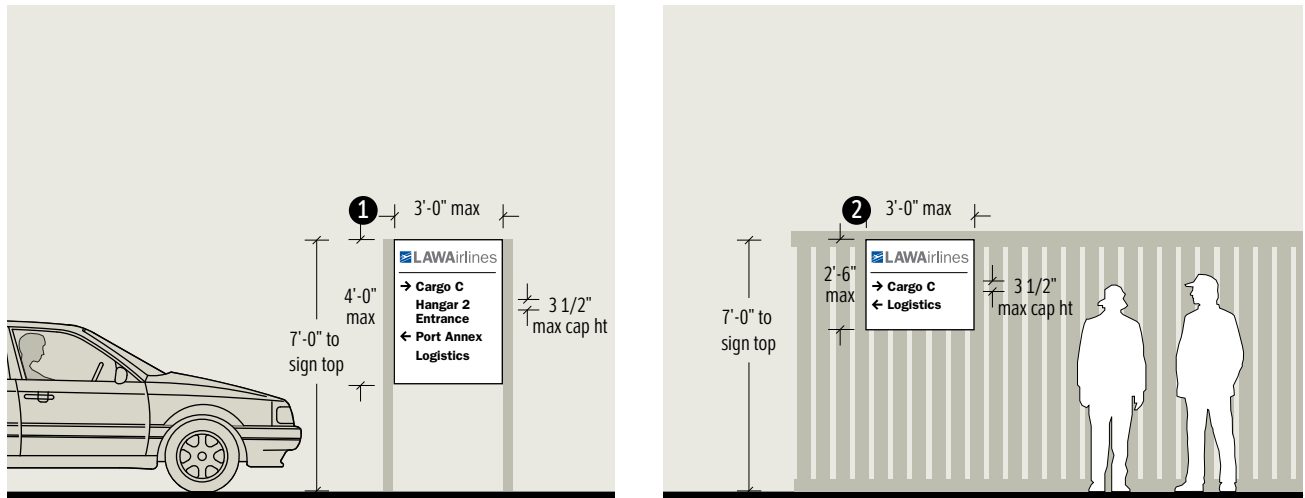

Figure 6d: Directional signs guide vehicular traffic to tenant buildings when other such signs do not exist.
❶❷ See *Figures 6d*. ❸ See *Figure 6e*.